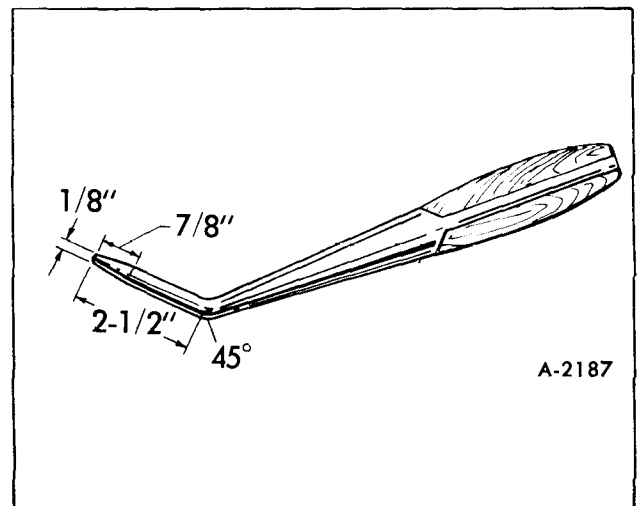

Figure 70—Center Support Locating Tool
**NOTE:** To correctly perform this operation, it will be necessary to make the tool shown in Figure 70. Then follow procedure outlined below: